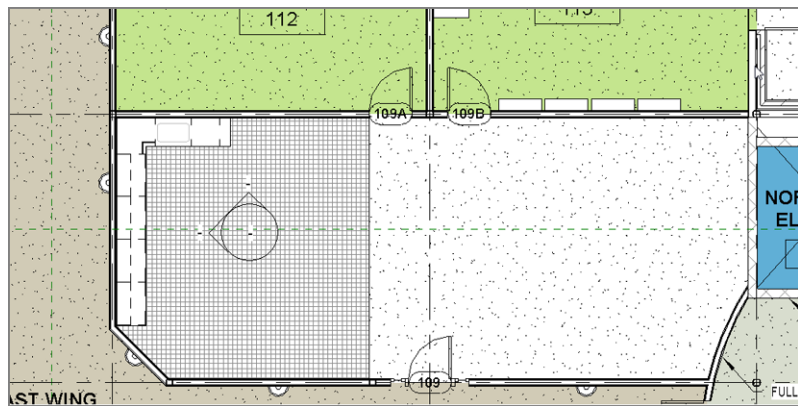

FIGURE 15.21: Place a room over the tiles (it will spill into the adjacent room).
1. In the Level 1 floor plan, zoom in on the area shown in Figure 15.21.
3. Place a room over the top of the tile flooring (see Figure 15.21).